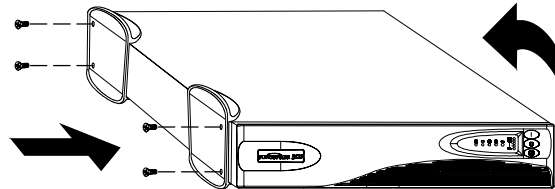

Figure 5. Installing the UPS Pedestals
1. Place the UPS horizontally, so that the left end of the unit is accessible (see Figure 5).